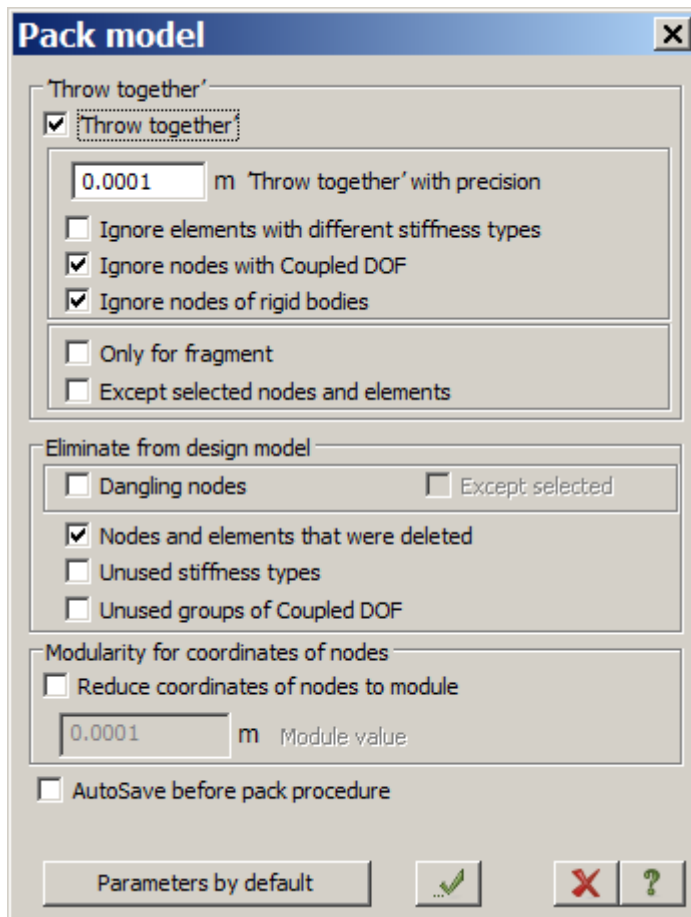

Figure 11.7 **Pack model** dialog box
- ⇒ In the **Pack model** dialog box (see Fig.11.7), click **Apply** . It is necessary to pack the model in order to 'throw together' coincident nodes and elements and to eliminate (that is, to remove completely) deleted nodes and elements from design model.